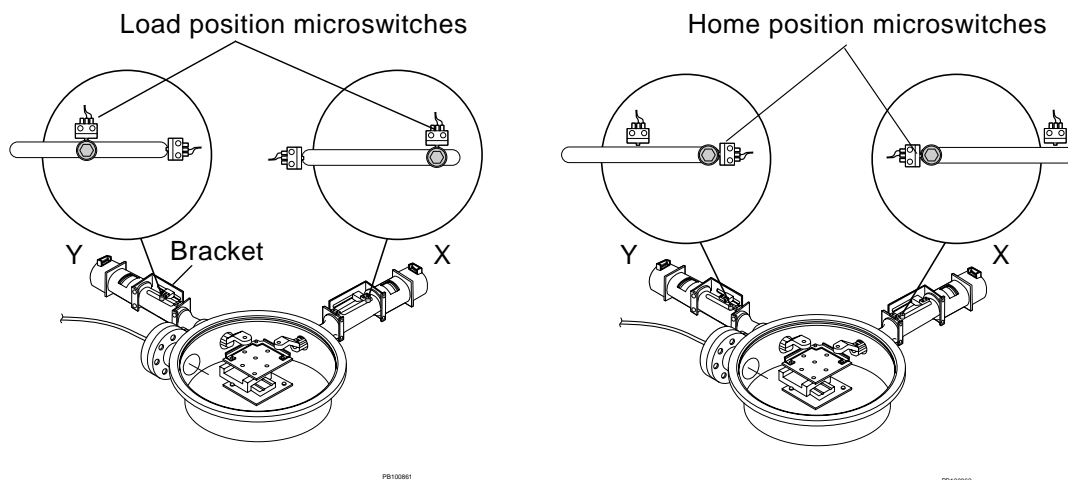

Figure 5-17 Stepper Motor Feedthrough Load and Home Position Switches
The stepper motor feedthroughs (Figure 5-17 on page 4-29) have two switches:
1. Move the Load Switch bracket (Figure 5-17) closer to the feedthrough sensor bobbin.